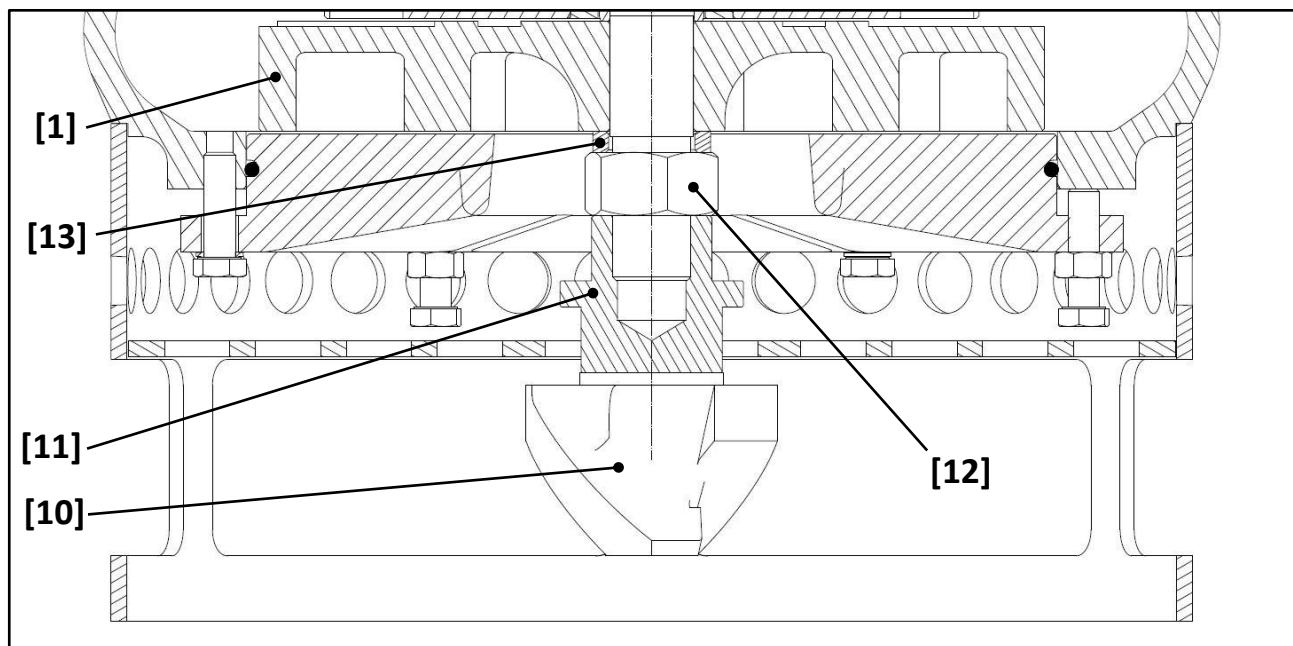

Fig. 6
- check the tightness of the agitator **[10]** and all the other threaded components of the agitator kit (see **Fig. 6**): in detail, be careful to the full tightening of the connector element **[11]** and the nut **[12]** in order to ensure a complete and strong contact between the spacer **[13]** and the impeller **[1]** (see **Fig. 6**);